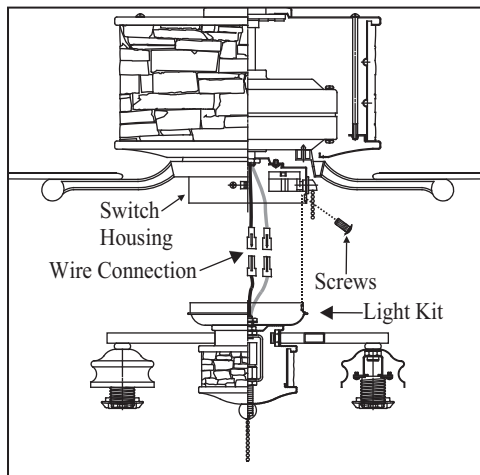

Figure 15
1. Raise and hold the light kit close to the switch housing and proceed to do the wire connections. Connect the white wire connectors from the light kit and fan, follow the same procedure with the black and blue wire connectors. (Fig. 15)
2. Carefully push all wires back into the switch housing, then install the light kit assembly onto the switch housing with 3 screws provided. Be sure to tighten all screws. (Fig. 15)